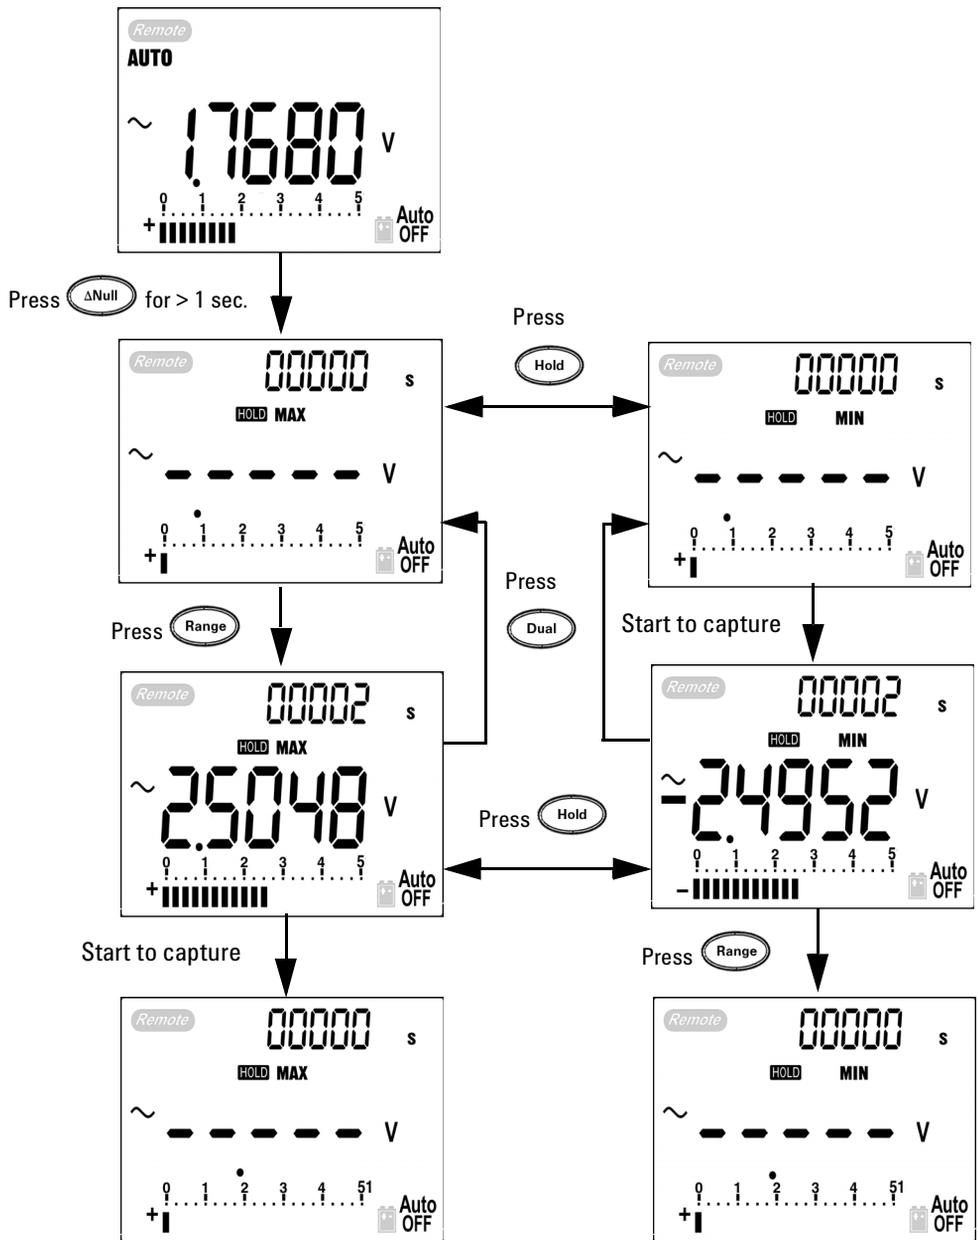

Figure 3-6 1 ms peak hold mode operation
- 4 According to the measurements in Figure 3-6 on the next page, the crest Factor will be  $2.5048/1.768 = 1.416$ .